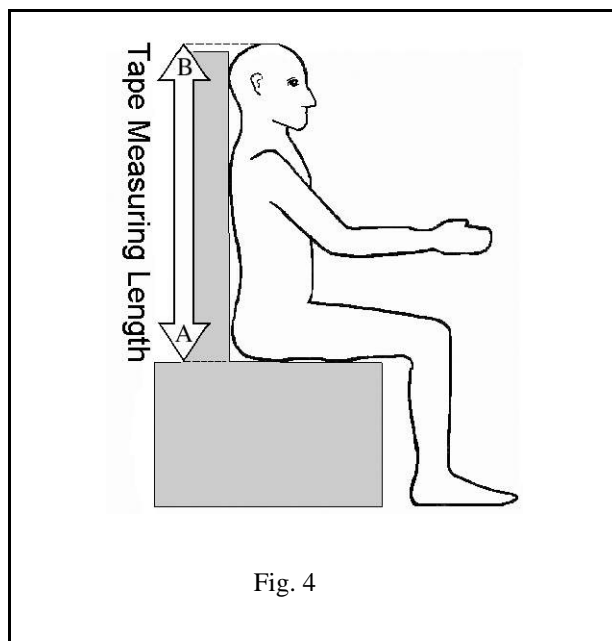

Fig. 4
- *The tape can be used to make dimensional records of patient for Tailor Made sling Requirements. (See fig 4)*